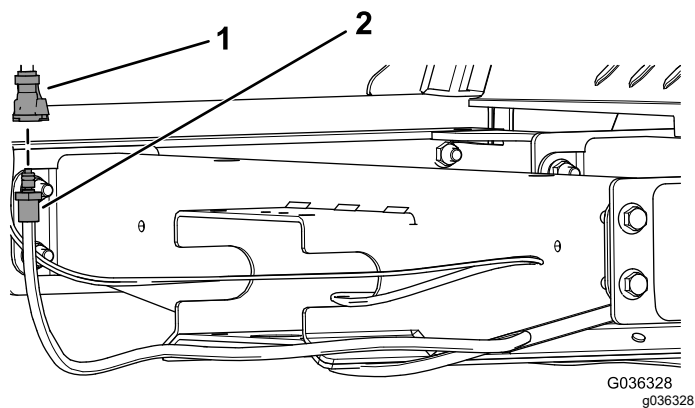

Figure 5
3. Connect the female straight fitting on the kit hose to the male straight fitting on the cab hose (Figure 5).